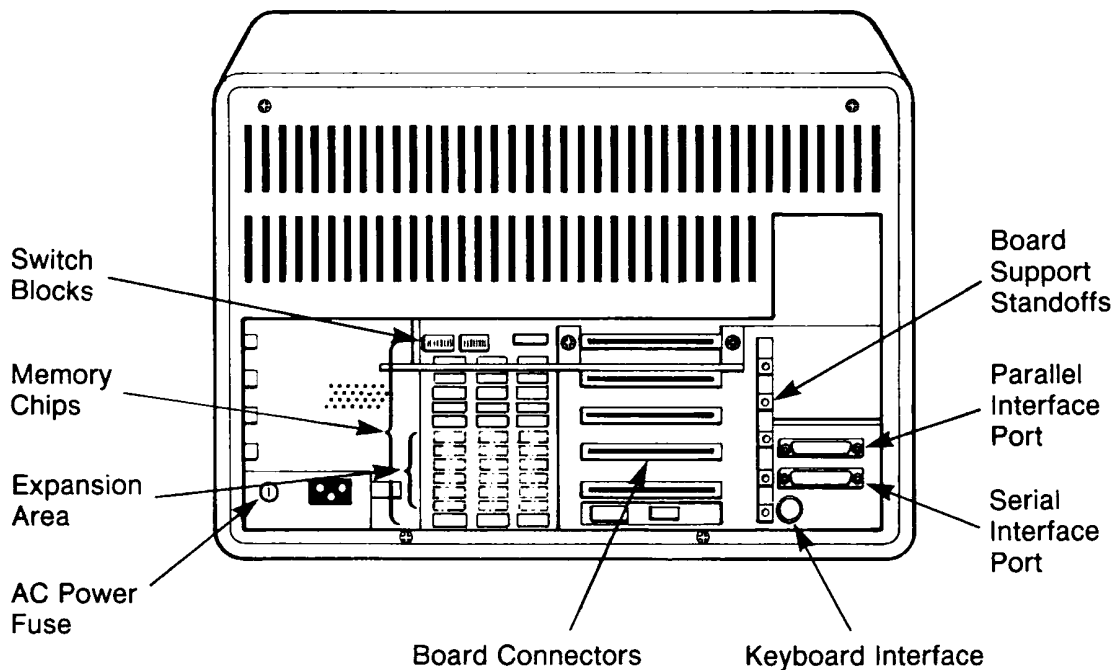

Figure 3-2 Main Processor Board (with access door removed)
- 2-5. Take out any adapter card which is in the top slot and which interferes with access to the Main Processor Board (MPB) configuration switch blocks SW1 and SW2 (see Figures 3-2 and 3-3). Many production models have the display (CRT) adapter card in this slot.
- 2-6. Check *all* configuration switch settings. Refer to the diagrams in Appendix A, *Configuration Switch Settings*, and to Figures 3-2 and 3-3 for location and details of the switches.
- 2-9. Check the AC power fuse, located to the left of the power cord plug as shown in Figure 3-2. It should be 3 amp, 250 volts; replace if blown.